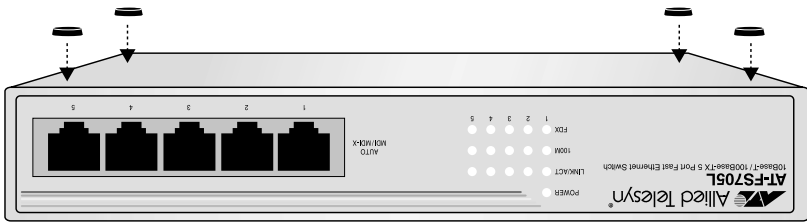

Figure 5 Attaching the Protective Feet
2. If you are installing the switch on a desktop, attach the four protective feet to the bottom on the unit. See Figure 5. **Do not attach the protective feet if you are wall-mounting the switch.**